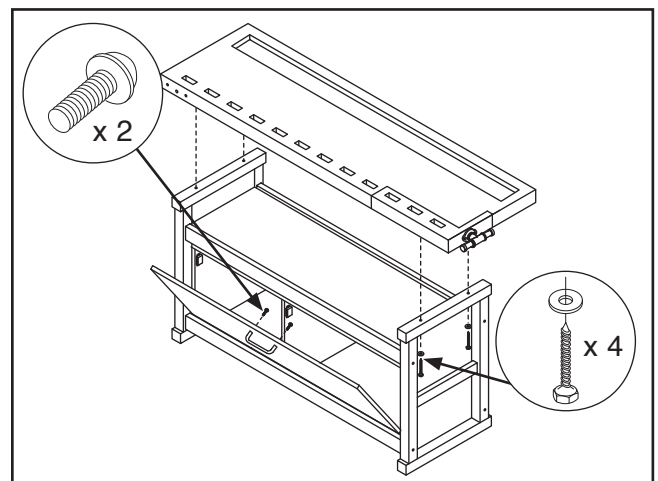

Figure 11. Attaching workbench top and handle.
10. Attach handle to cabinet front panel using (2) M4-7 x 22 flange screws (see **Figure 11**), then close cabinet to test limiter range of motion.
11. Place workbench top onto workbench frame and secure with (4) M8 x 80 lag bolts and (4) 8mm flat washers, as shown in **Figure 11**.